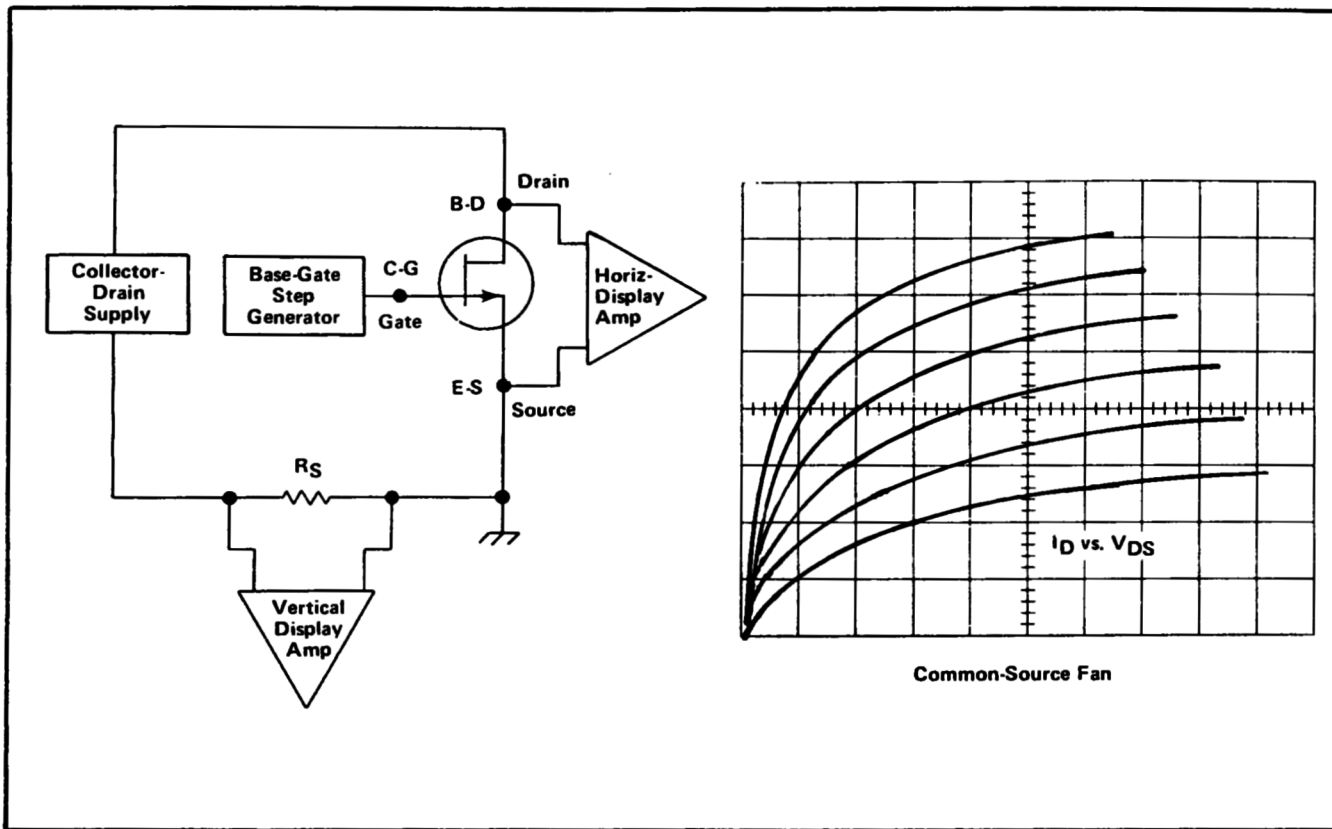

Fig. 1-5. Simplified diagram showing the connection of an FET to the 7CT1N and a typical display.
**Installation.** Connect the FET to the device testing jacks through the transistor-FET adapter which is included with the 7CT1N. This adapter is wired to accept devices with gate-drain-source configurations. If the adapter can not be conveniently used, connect the leads directly to the device testing jacks as shown in Fig. 1-5.
Turn the COLLECTOR/DRAIN VOLTS control clockwise to obtain a horizontal trace of about 5 divisions. Turn the STEP AMPL switch clockwise until a display similar to that shown in Fig. 1-5 is obtained.